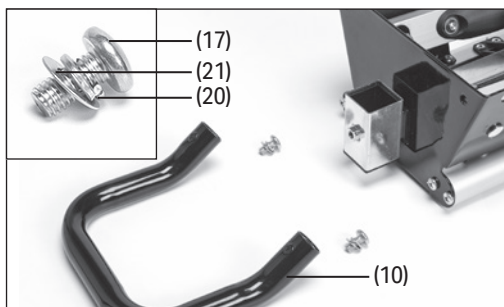
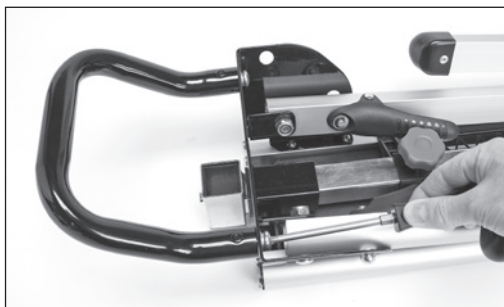

Fig. 1
Fig. 2
6.1 Assemble Transport Handle (Fig.1 – Fig.2)
1. Use two sets of handle fixings. Thread the handle screw (17) with the lock washers (20) and 8mm washer (21) in the order indicated in Fig. 1.
2. Align the holes in the handle (10) with the holes located at the end of the stand as shown in Fig.2.